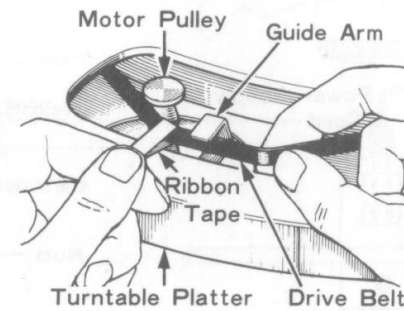

Fig. 4 How to Attach the Belt
3. Place the turntable platter on the center shaft, and attach the drive belt to the motor pulley and guide arm. This can be done easily by using ribbon tape as shown in Fig. 4. Place the rubber sheet on the turntable platter.